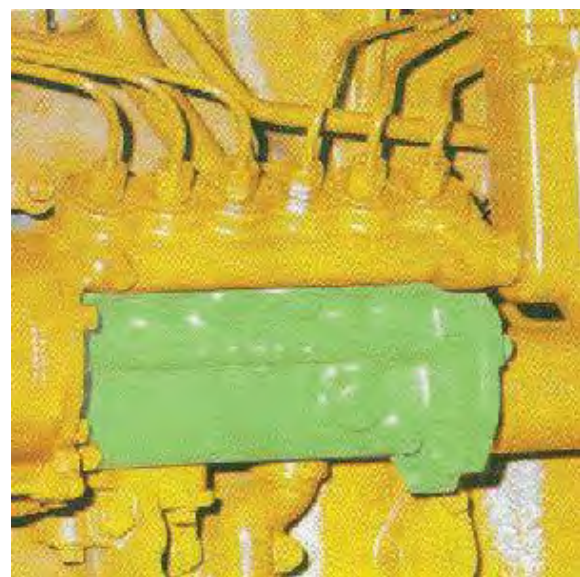

Figure 2-9 - Multiple-plunger, inline pump system.
- Multiple-plunger, inline pump systems, shown in *Figure 2-9*, use individual pumps that are contained in a single injection pump housing. The number of plungers is equal the number of cylinders on the engine and they are operated on a pump camshaft. This system is used on many mobile applications and is very popular with several engine manufacturers.